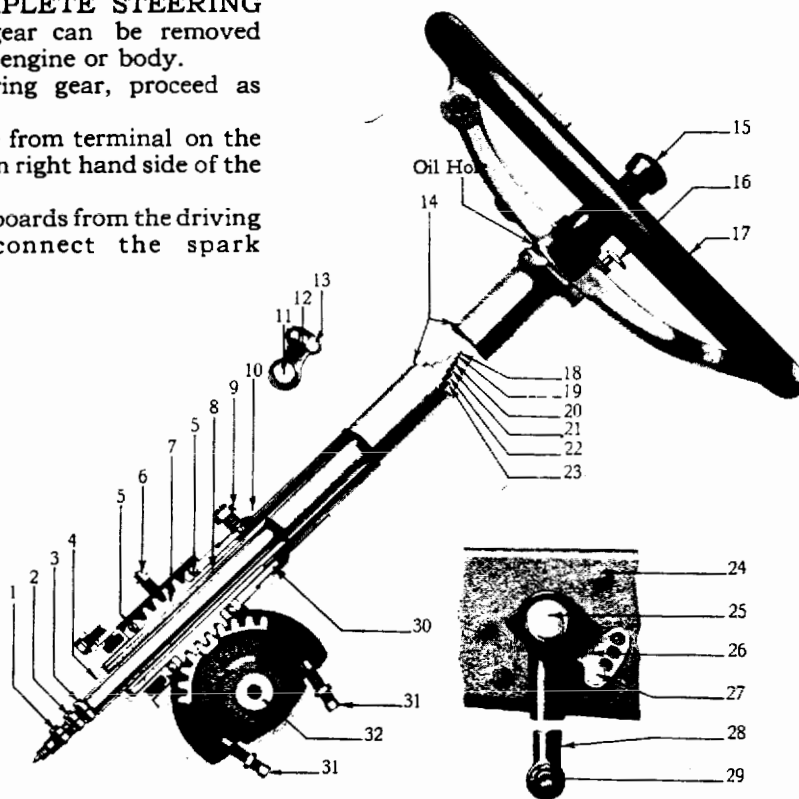

Fig. 26
Remove the screw (25) Fig. 26 and pull off the steering arm (28).
The internal mechanism of the steering gear may be lubricated at (6) Fig. 26, with the lubricator gun provided in the tool kit. Use gear lubricant. NEVER use cup grease. An oil hole will be found under lever arm at back side under steering wheel (see Fig. 26), also oil all joints at top of steering column.
ADJUSTMENTS, INCIDENTAL TO WHEEL ALIGNMENT—At (31) Fig. 26 are two stop screws. These screws act as stops for the sector in the housing. They are properly adjusted when the car leaves the factory and will need attention only in case of re-